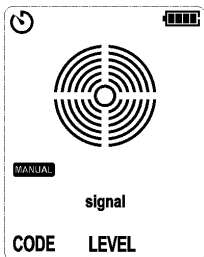

Figure 7.1.4a – No Signal Detected
1. Short press the AUTO/MANUAL (mode) button, and the LCD will show MANUAL, as shown in **Figure 7.1.4a**.
3. For best results, when tracking energized conductor, align the dot (on the top of the sensor) to the direction of the conductor, as shown in **Figures 7.1.4a** and **7.1.4b**. If not aligned properly, the signal may not be detected, or the code may be wrong. To check the direction of the cable, rotate the receiver for 90° regularly. The signal strength reaches its maximum when the cable is aligned with the dot on top of the sensor. The receiver automatically detects if the cable is energized (“**⚡**”), which will be displayed on the LCD.